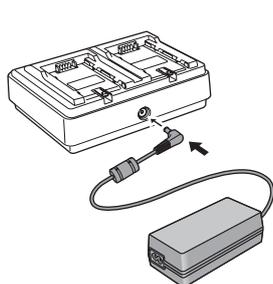

Fig. 1
**1** Connect the DC plug of the AC adaptor to the DC IN 12V terminal of the battery charger. (Fig. 1)